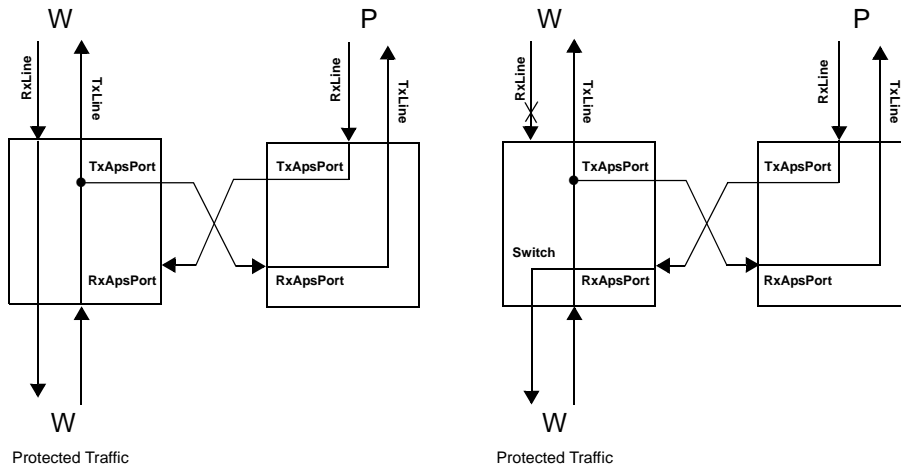

Figure 13. STM-4/OC-12, 1+1 APS
Figure 13 shows an example of a 1+1 APS protection architecture in STM-4/OC-12 mode. One PHAST-12P device handles the Worker line (W) while a second PHAST-12P handles the Protection line (P). Both devices are interconnected through the full bandwidth of APS Port interface. The cross connects of both devices setup a permanent bridge from the Worker Transmit line to the Protection Transmit line over one of the APS Port interfaces. The received protection payload is available on the other APS Port interface.